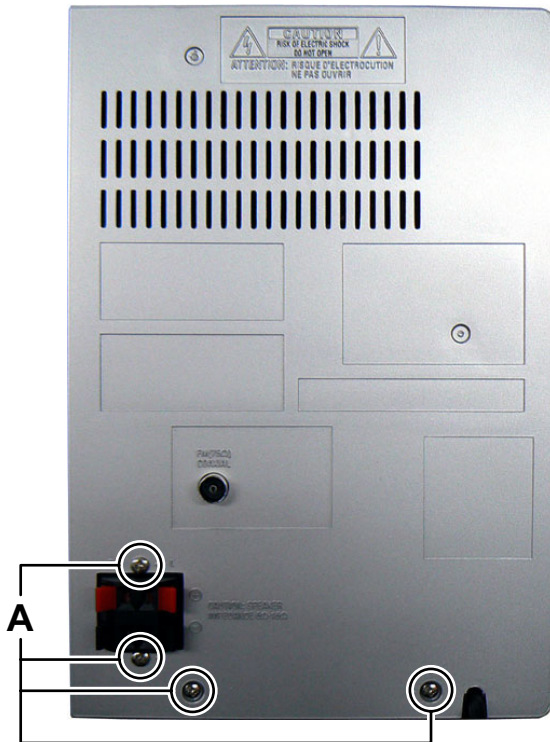

Fig.1
#### 3.1.1 Removing the Top cover (See Fig.1, 2, 3, 4)
- (1) Remove the four screws **A** attaching the Top cover. (See Fig.1)